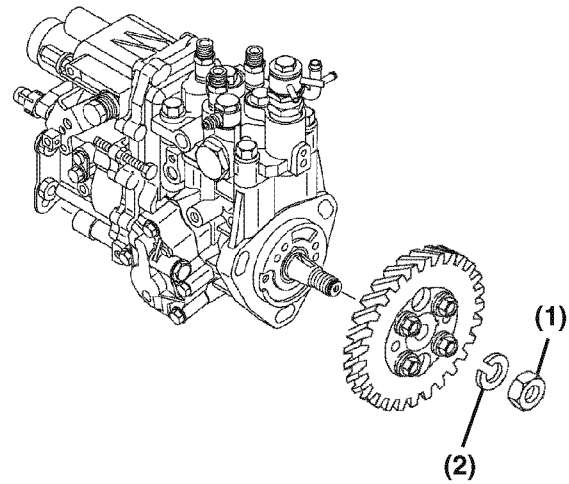

Figure 7-26
5. Reinstall the fuel injection pump drive gear lock washer (**Figure 7-26, (2)**) and nut (**Figure 7-26, (1)**). Do not lubricate the threads of the nut or shaft. Hold the crankshaft pulley bolt with a socket wrench and tighten the drive gear nut to the specified torque. See *Special Torque Chart* on page 7-7.